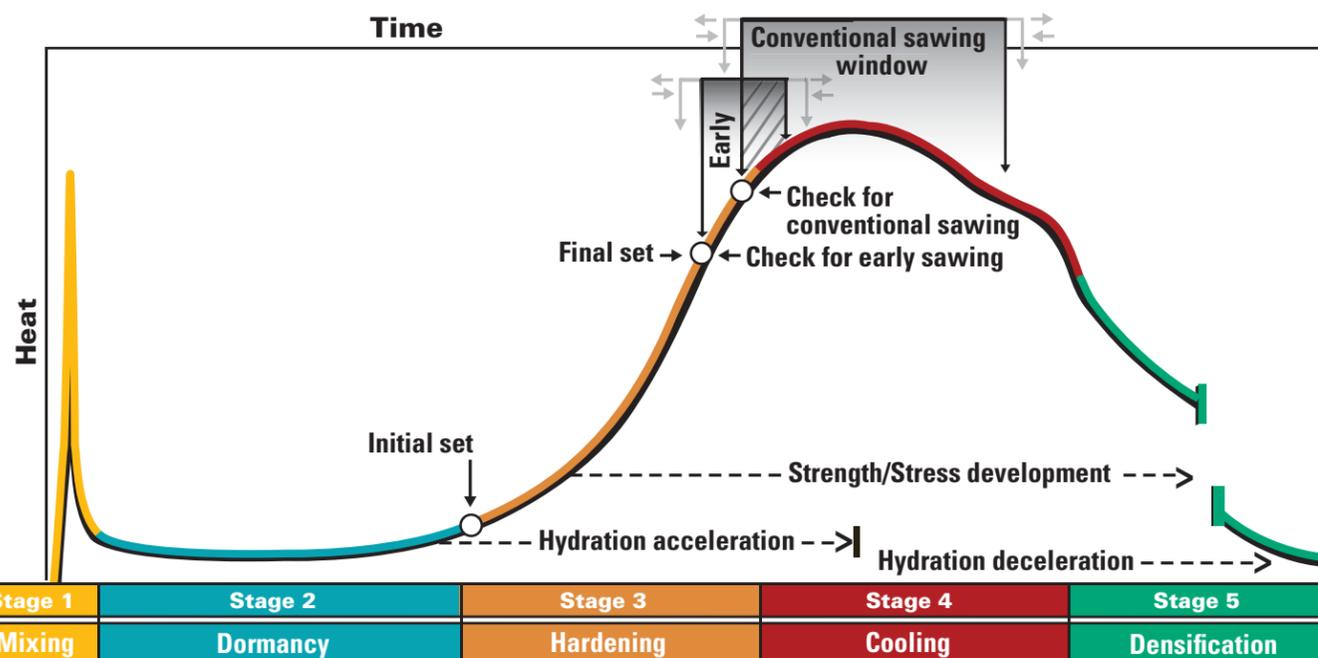

Figure 2. The five stages of hydration mapped on a heat vs. time curve
To simplify this discussion, chemical reactions between the various compounds in portland cement and water are described in five stages. The stages are illustrated by a curve that represents changes in heat during the first hours and days of hydration (figure 2).
- The sawing window generally begins about the time of final set (figure 2).